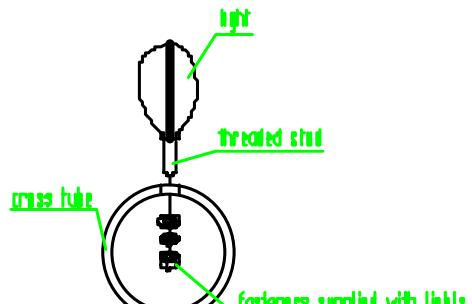

FIGURE 1
STEP 2. Cut out templates. Mark centerline of lower air dam by locating the series of small fins on backside of air dam. Lines should be 8 " long. Measure and mark a line 17 1/2 " from center line. DO NOT follow contour of air dam. Make several marks from separate measurements using the centerline to create profile. SEE FIGURE 1.
STEP 3. Align templates with air dam. The "REAR OF AIR VALANCE" line aligns with bottom rear portion of air dam and the "CENTER LINE" line aligns with the 17 1/2" marks created. Tape template to air dam and trace outline. Using desired method, cut along outline. Additional trimming or adjustment to air dam may be necessary. Replace lower air dam. SEE FIGURE 1.